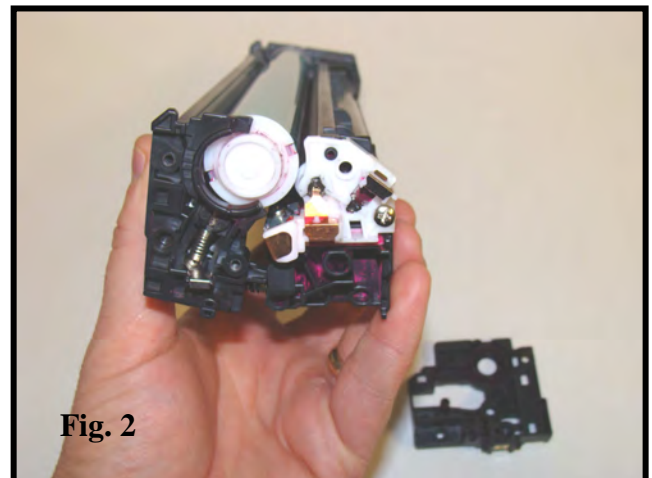

Fig. 2
2. Remove the end cap once the screws are removed (Fig. 2).